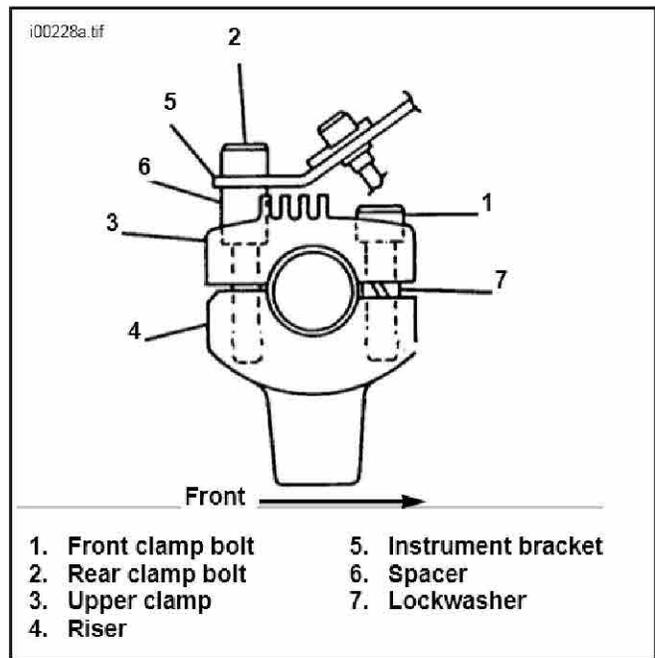
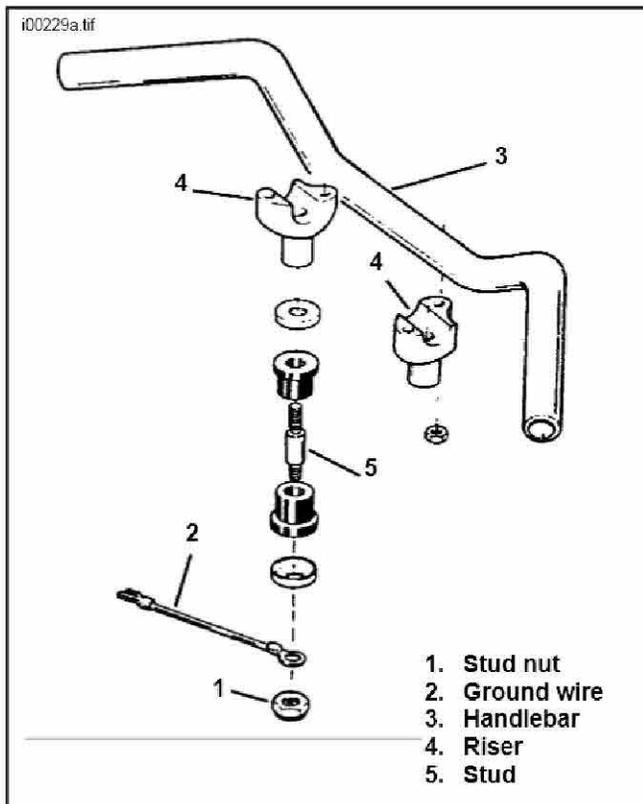

Figure 4. Instrument Bracket Mounting (Dual Instrument Mounting Bracket Shown)
Figure 5. Handlebar Clamp Assembly
1. See Figure 4. Remove the front and rear handlebar clamp bolts (1 and 2). Remove speedometer bracket (5), spacers (6) and upper clamp (3).
2. See Figure 5. Remove the two riser stud nuts (1) and, on 1992 and 1993 models, the ground wire (2), at the underside of the upper fork bracket and move the handlebar (3) clear of risers (4). Lift up the risers with studs (5).
- See Figure 5. Exchange the position of the two risers (left riser to the right and right riser to the left). Loosely thread on the riser stud nuts. On 1992 and 1993 models, be sure to install ground wire.
- See Figure 4. Mount the handlebar on risers (4) and position the upper handlebar clamp in alignment with holes in the risers (wide spaced holes at the rear of the handlebar).
- Place lockwasher (7) between upper clamp (3) and riser under front clamp bolts.
- Insert shorter clamp bolt (1) through upper clamp (3), lockwasher (7) and riser (4). Install front clamp bolts (1) and torque to 12 - 15 ft-lbs.
- See Figure 4. Place the tachometer and dual instrument bracket (5) in position over the rear holes in upper clamp (3). Place a spacer (6) under the bracket and over each rear hole in handlebar riser (4). Insert longer bolt (2) through bracket (5), spacer (6), upper clamp (3) and riser (4). Install rear clamp bolts (1) finger tight.
- Be sure handlebar and risers are aligned and tighten clamp bolts (2) to 12-15 ft-lbs.
- See Figure 5. Tighten riser stud nuts (1) to 25-30 ft-lbs.
- See Figure 4. Install bezel in new bracket. Place indicator lights and wires in bezel.